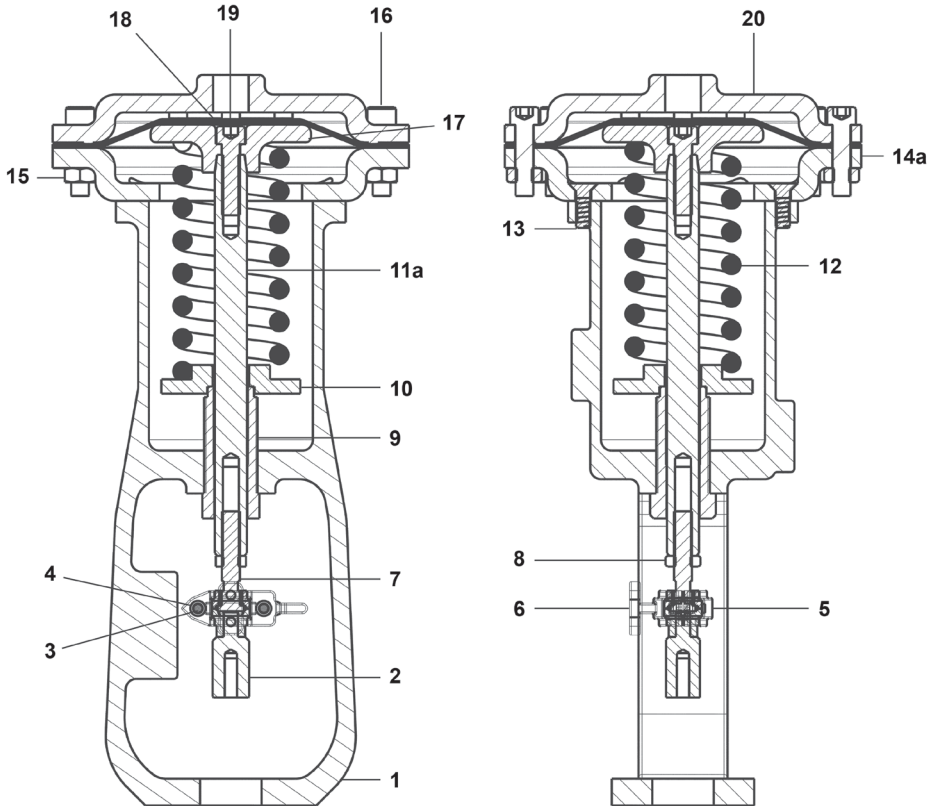

Fig. 6 - Actuator Mod. 595
4.3 How to renew the actuator diaphragm and the sealing washer (Fig. 6)
- Rotate the spring adjuster (9) to fully discharge the spring (12).
- Remove bolts and nuts (15, 16), the cover (20) and the diaphragm (19) from the actuator.
- Fit the new diaphragm (19).
- Replace the cover (20) of the actuator.
4.3.1 How to renew or change the control spring(s) (Fig. 6)
- Rotate the spring adjuster (9) to fully discharge the compression of the spring (12).